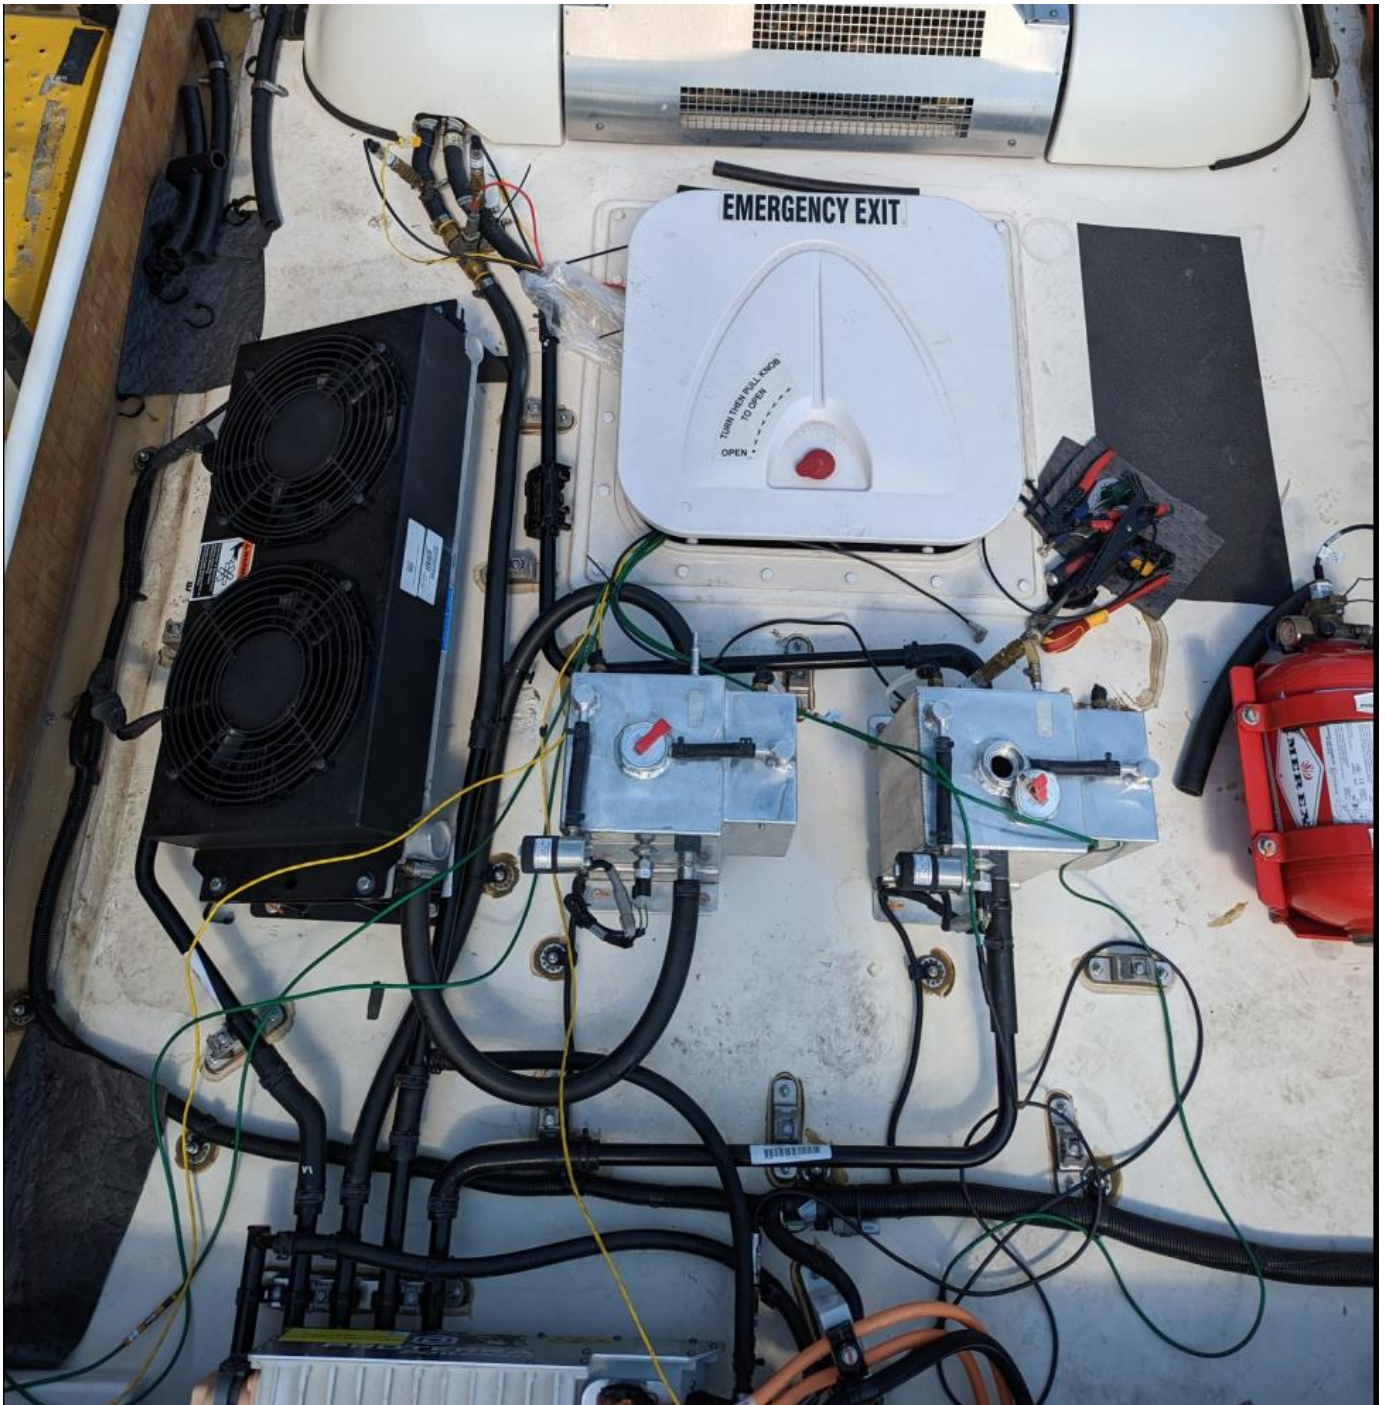
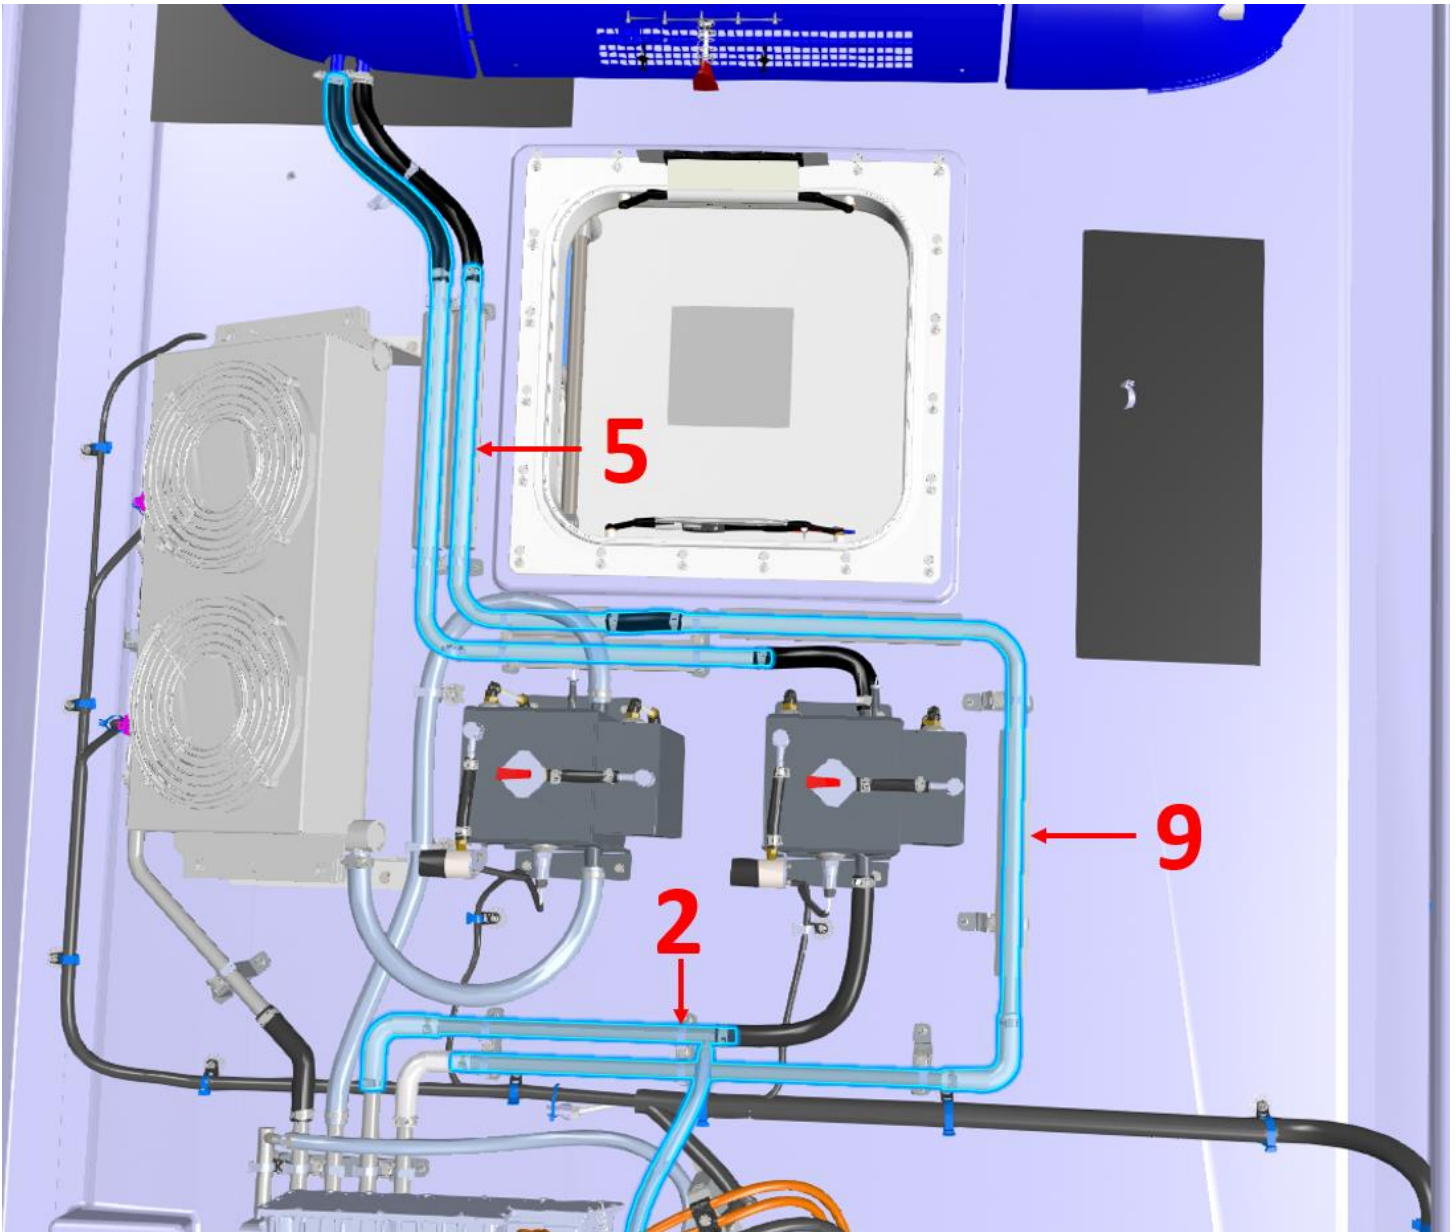
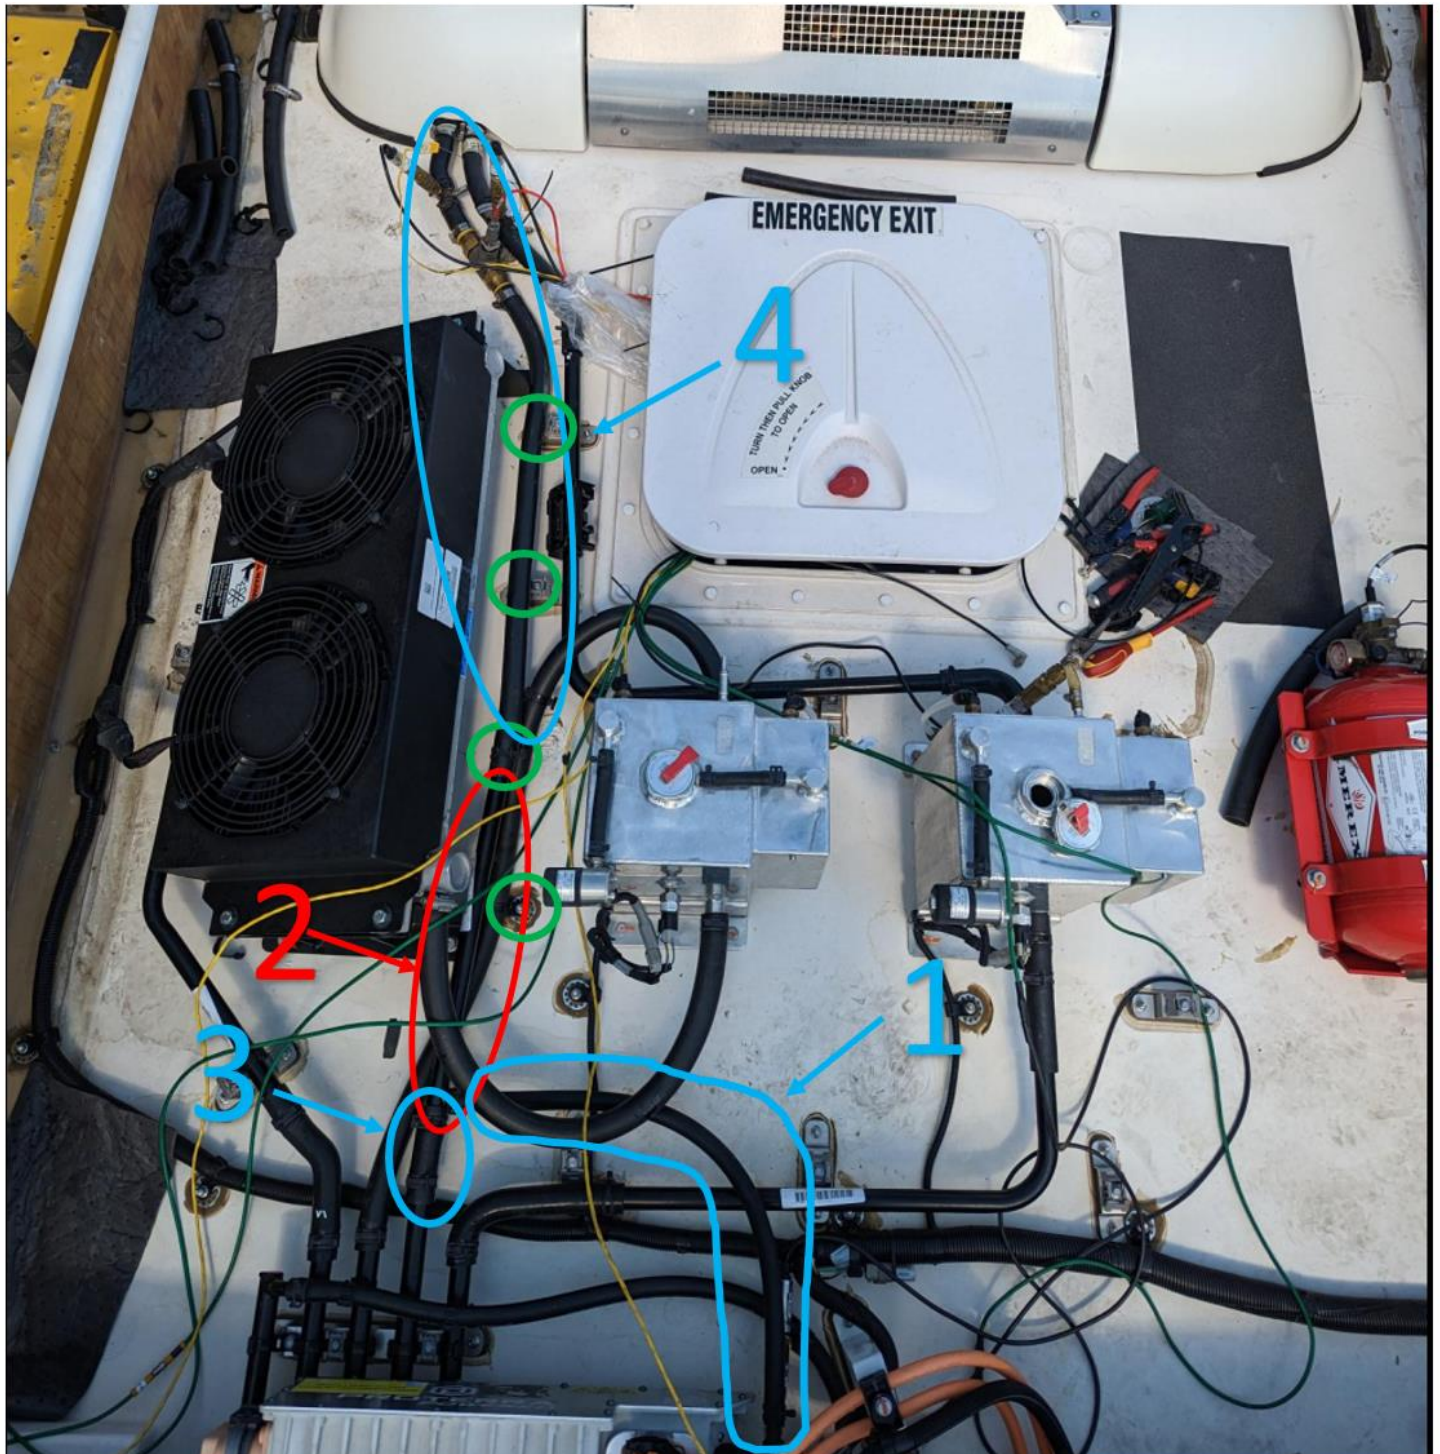

Figure 3
Figure 4
Figure 5
NOTE: Disregard the wires and instrumentation shown in Figure 3.
6. Remove ONLY the highlighted coolant lines shown in Figure 4. Label the hardlines as shown in Figure 3 according to the *Labeled Removed and Reused Parts Table*. Any flexible lines attached to hardlines can be disconnected if highlighted. Retain the hardlines and spring clamps for reuse.
7. Reference Figure 5 for part callouts. Attach the #1 5/8" diameter flexible hose (PN: 017073) to the battery and secure with retained spring clamp. Attach #1 flexible hose to the perpendicular opening of the #2 labeled hardline so that the long part of the hardline runs towards the HVAC system and secure with a spring clamp. Measure and cut the 1" flexible hose (PN: 017011) shown as #3 so that the bend radius of #1 is similar to what is shown in Figure 4. Install the #3 flexible hose to the hardline and the battery and to the #2 "T" hardline. Clamp both ends to secure. Measure and cut the 1" flexible hose (PN: 017011) shown as #4 to be connected to the HVAC system and end of the #2 "T" hardline. Apply spring clamp to both ends of #4. Secure the coolant lines with zip ties and double mounting base circled in green.